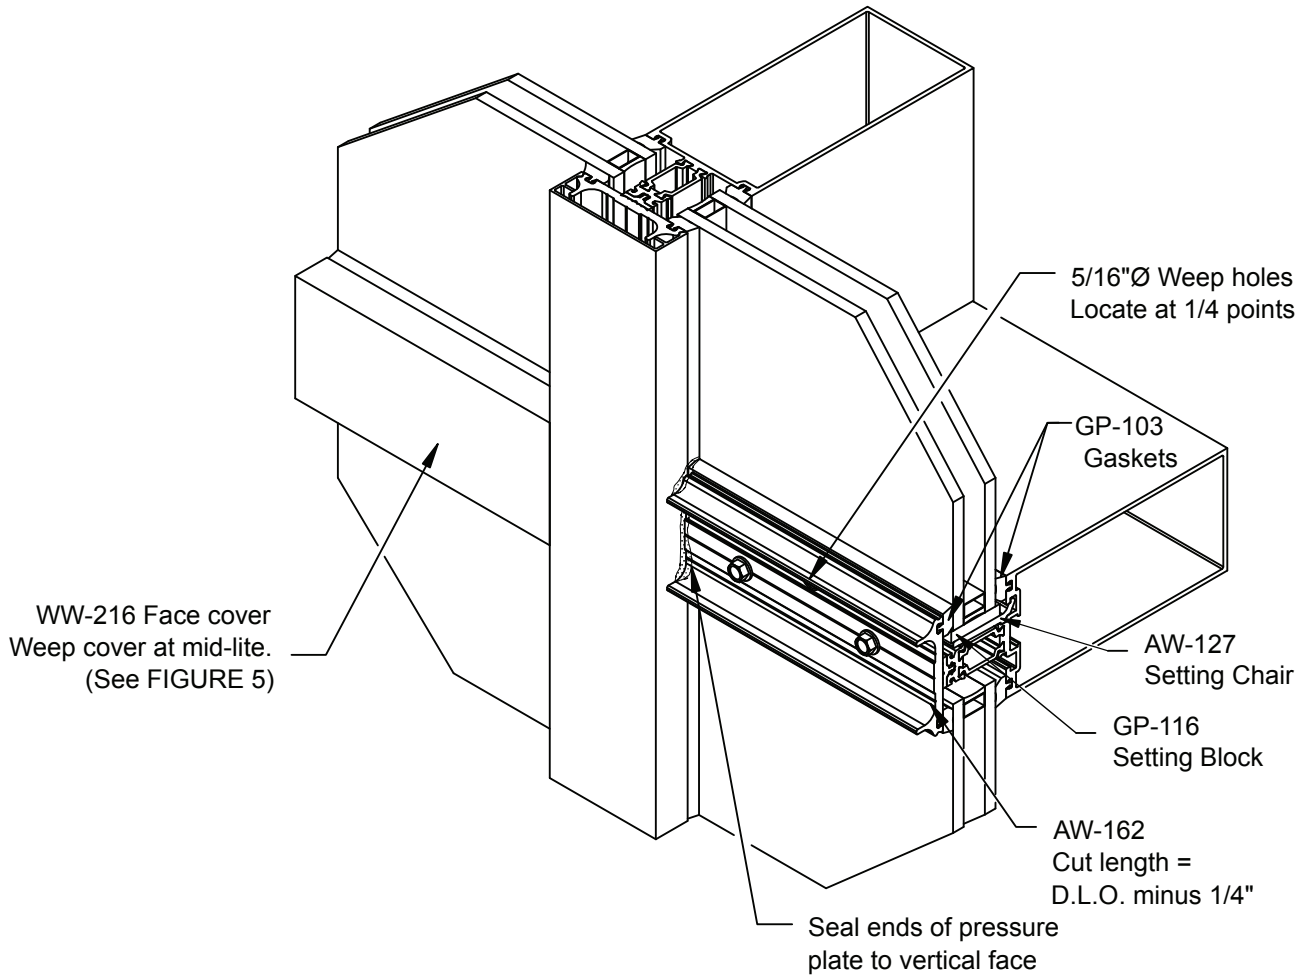

FIGURE 4
2.3 Seal horizontal pressure plate to verticals and install face caps. Reference system installation manuals for more information. See FIGURE 4, page 8.